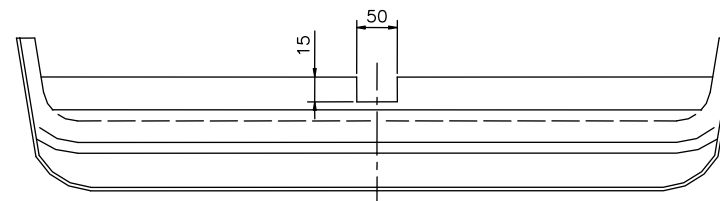

Fig. 2 Bumper cut out
2. In bottom part of the bumper cut out fragment according to figure 2.
3. On protruding pins in rear wall of car body put left handle (pos. 7) on the left side and right handle (pos. 6) on the right side and fix using original nuts M8 from metal reinforcement disassembly and per one bolt M10x35mm (pos. 13) from accessories (fix loosely).
4. With in this way prepared elements fix side brackets (pos. 4 and 5) and main bar of the towing hitch pos. 1 using bolts M12x40mm (pos. 12) – see drawing.
6. Inside the trunk put fish-plates (pos. 8 and 9) in this way, so holes of the fish-plates agree with holes drilled before and fix loosely using bolts M10x35mm (pos. 13).
7. Through holes pos. B of fish-plates drill straight through holes $\varnothing 11$ mm and next fix with rectangular washer (pos. 10) by bolts M10x35mm (pos. 13).
9. Fix tow-ball (pos. 2) and socket plate (pos. 3) by bolts M12x75mm (pos. 11) from accessories.